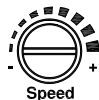

Figure 11
- a. A motor mounted potentiometer is mounted on the case of the motor to adjust the speed manually. See Figure 11. Turn the potentiometer using a screwdriver to adjust the speed.